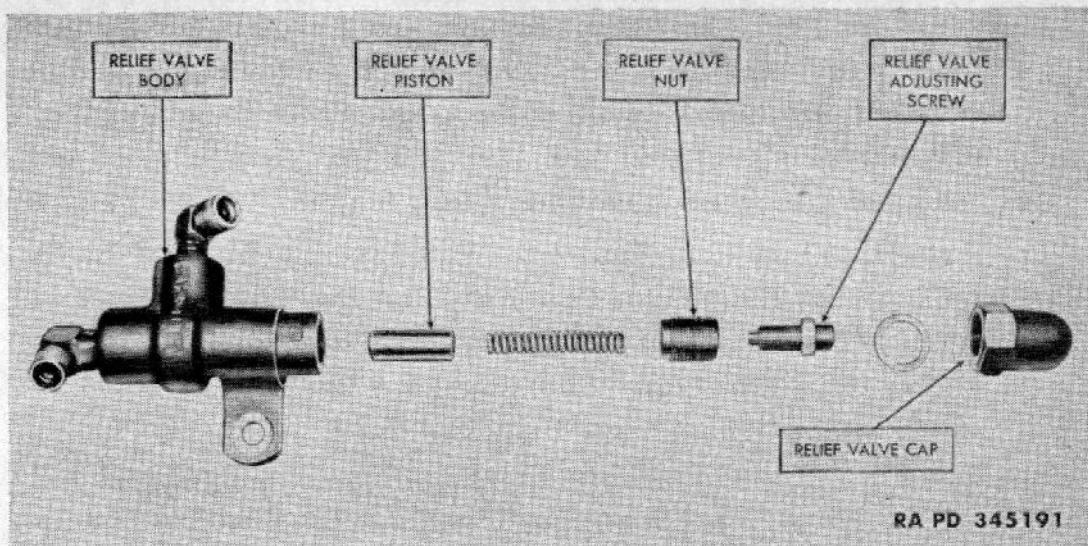

Figure 110. Torque converter pressure relief valve—disassembled.
- (1) Disconnect the oil pressure relief valve, remove bolt from clamp that secures the valve, and remove valve from vehicle.
- (2) Disassemble valve by removing valve cap, adjusting screw, and valve nut (fig. 110).